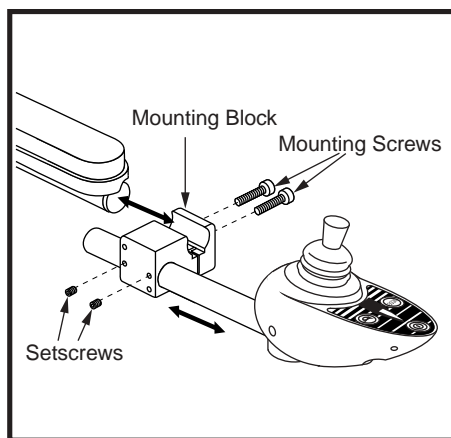

Figure 24. Controller Position - Mounting Block
4. Loosen the mounting screws in the controller mounting block. See figure 24.
2. Loosen the setscrews in the controller mounting block. See figure 24.